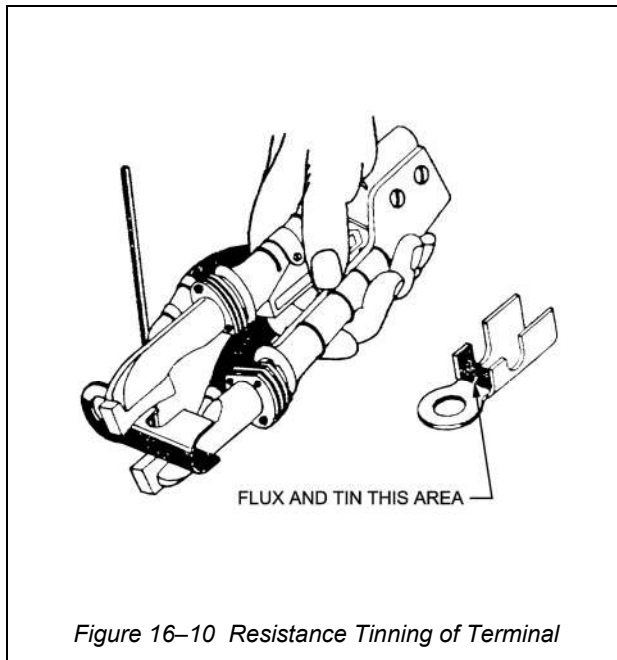

Figure 16-10 Resistance Tinning of Terminal
16. Tin only section of thermocouple terminals inside wire grip as shown in Figure 16-10. Terminals for silver soldering should not be plated.
- Using a torch or the resistance heating pliers, melt a thin coat of silver solder onto inside of wire grip. See Figure 16-10 for use of resistance heating pliers in this operation.
- a. Grasp terminal and wire assembly, prepared in accordance with Paragraph 17, at wire grip area. The resistance heating pliers are to be in the position shown in Figure 16-10.